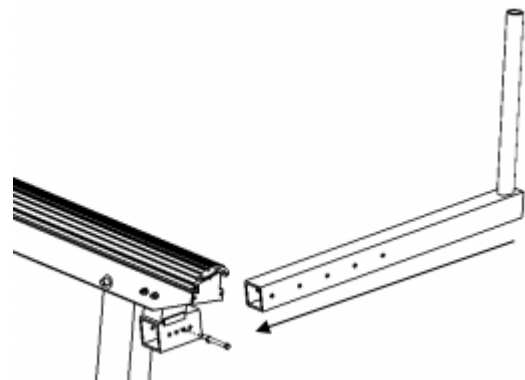

Figure 24
1. Insert the Guide Pole into the Guide pole Mounting Bracket so that the Guide Pole arm is facing outward and upward as shown in Figure 24.
3. Attach one (1) Flat Washer to one (1) Hex Bolt and insert into the mounting hole.
4. Attach one (1) Flat Washer, one (1) Lock Washer, and one (1) Hex Nut to the protruding end of the Hex Bolt and fasten with appropriate wrench until secure.
5. Repeat this step three (3) more times, once for the opposite end of the Bunk, and twice for the second Bunk.